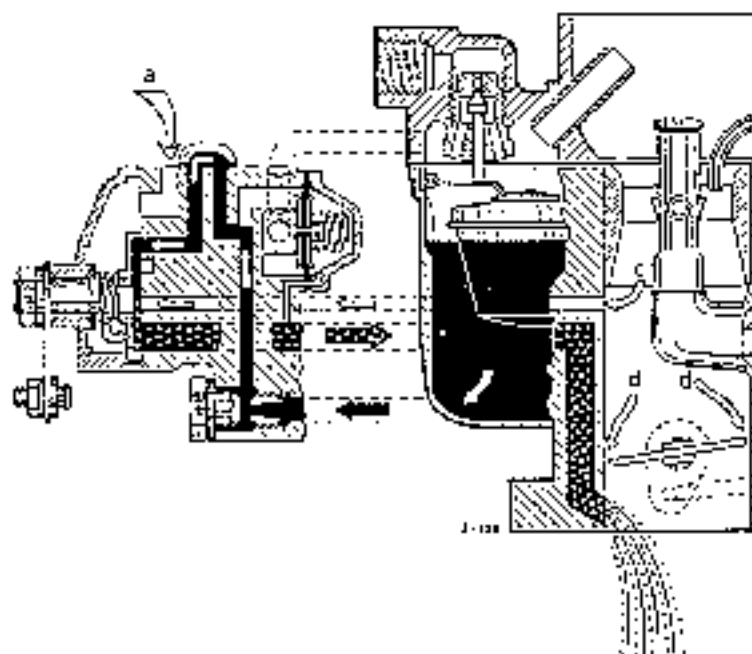

Fig. 07-0/2
At the same time air is drawn from the suction canal of the carburetor via the canal (24) into the chamber (34) of the starter rotary slide valve. This additional air combines with the pre-mixture in the mixing chamber (35) of the starter rotary slide valve. From the mixing chamber this fuel-air mixture passes into the cavity (36) of the starter rotary slide valve. Here it mixes with the air which comes via the starter air canal (38) through the starter air bore (23) in the starter rotary slide valve which acts as a starter air jet. Through the starter mixture canal (25) this mixture now passes into the suction canal of the carburetor where it combines with the air streaming through the throttle valve gap to produce the finished starting mixture. Fig. 07-0/2 shows the mode of action of the starter mechanism during the 1st phase when the engine is being started.